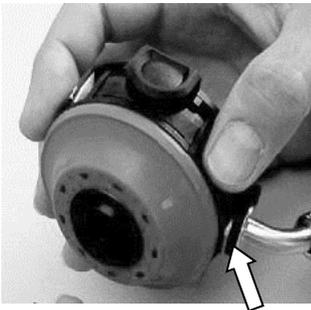

Fig. 31 *Assembly medium pressure line*
(3) Assembly Medium Pressure Line
- Push U-clip **from the diaphragm side** (→ arrow in Fig. 31) into holes of housing till stops. The medium pressure line is secured.